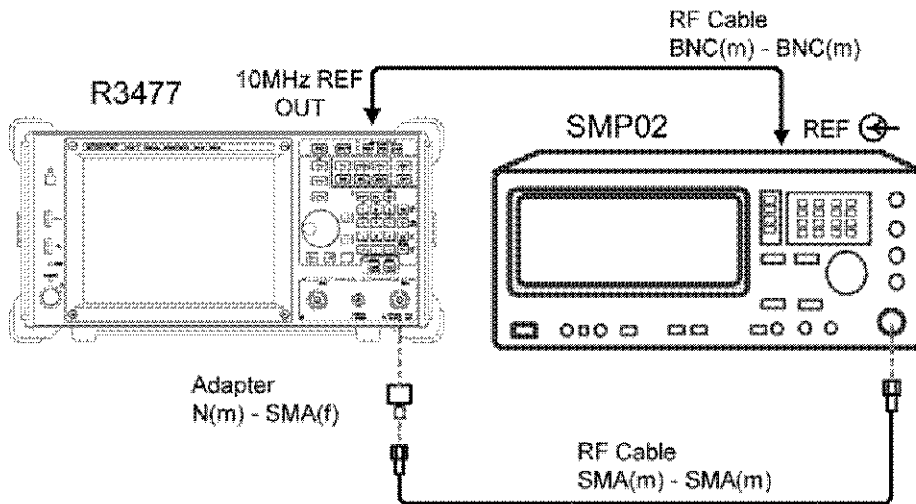

Figure 2-3 Marker Frequency Counter Accuracy Test
1. Connect the instruments as shown in Figure 2-3.